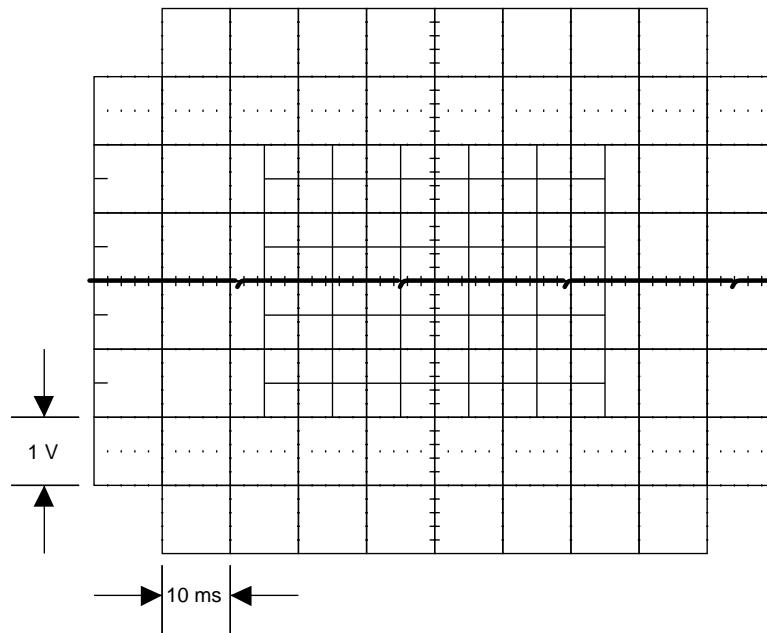
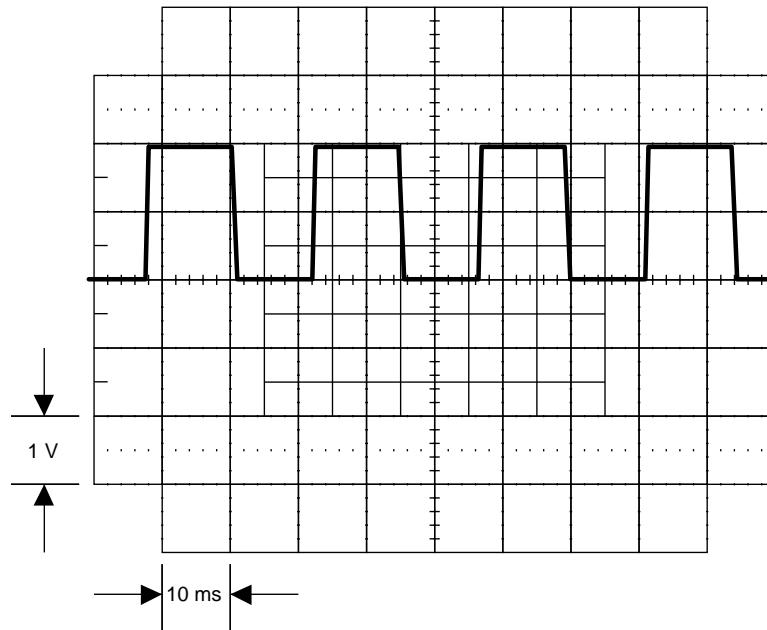

Figure 5-18. Waveform at TP4, 5700A Set to 0V
Figure 5-19. Waveform at TP4, 5700A Set to 6.5V
4. Check CH1 SERIES B. Connect an oscilloscope to TP4 (common to TP3). Set the oscilloscope to 10V/div at 2 ms/div and verify it displays pulses as shown in Figure 5-18. Next, set the 5700A to 6.5V dc, operate. Verify the oscilloscope displays pulses with approximately 50% duty cycle as shown in Figure 5-19. If either of these displayed signals are incorrect, skip to Duty Cycle Control Circuit.
10. Check CH1 SERIES B. Connect an oscilloscope to TP4 (common to TP3). Set the 5700A to 6.5V dc, operate, and the oscilloscope to 10V/div at 2 ms/div. The oscilloscope should display a signal similar to previously shown Figure 5-19. If a failure is detected, check Q33, Q34, and their associated components.